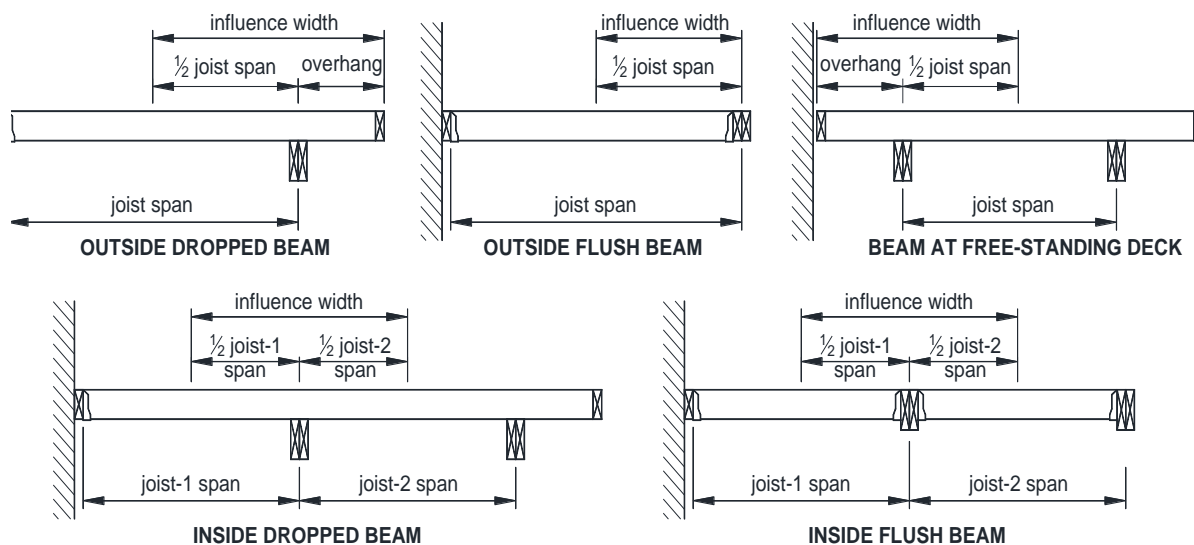

FIGURE 14: BEAM INFLUENCE WIDTH
- Beam size is based on its influence width and longest span length per TABLE 3. Beam influence width, as shown in FIGURE 14, is based on supported joists' span lengths and overhang dimensions.